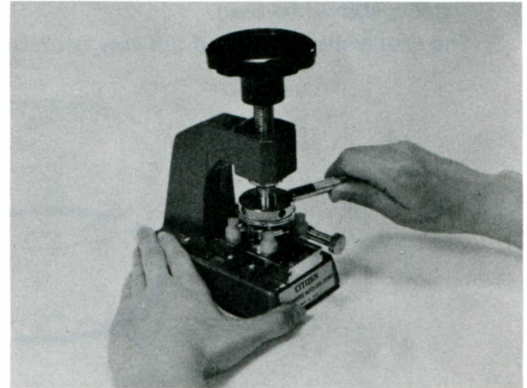

Fig. 3
(1) Unscrew the case back.
- Unscrew the case back by half a rotation using the Citizen Multi-Purpose Watchcase Opener (Fig. 3).